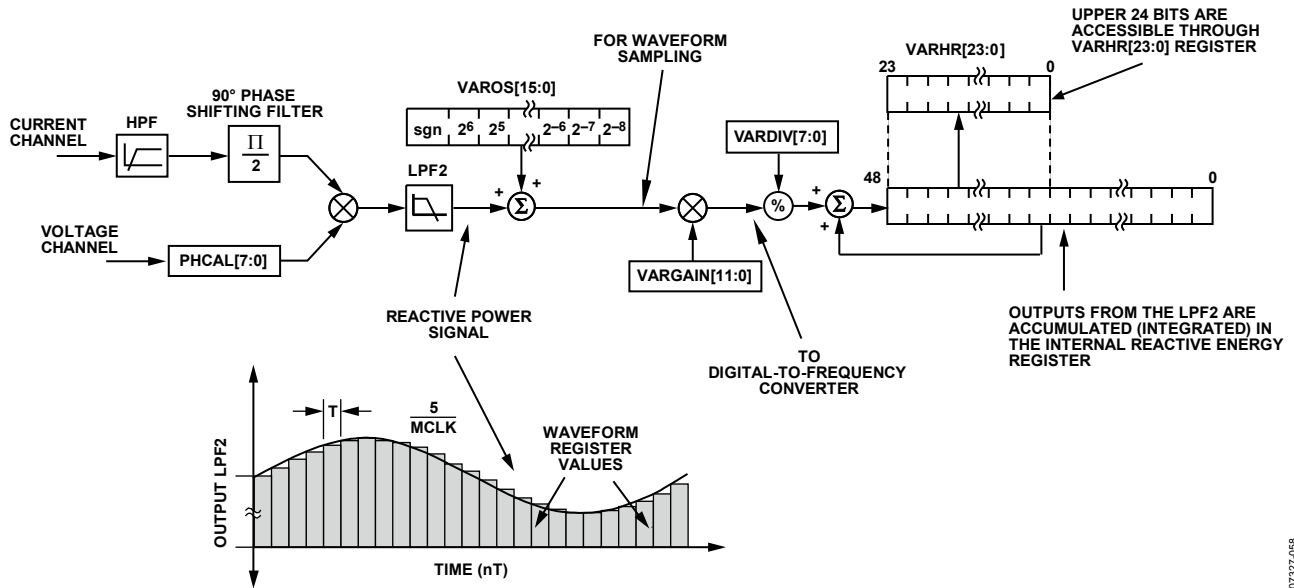

Figure 58. Reactive Energy Calculation
The instantaneous reactive power signal $q(t)$ is generated by multiplying the voltage and current channels. In this case, the phase of the current channel is shifted by 90° . The dc component of the instantaneous reactive power signal is then extracted by a low-pass filter to obtain the reactive power information (see Figure 58).
Figure 58 shows the signal processing chain for the ADE7518 reactive power calculation. As explained in the Reactive Power Calculation section, the reactive power is calculated by applying a low-pass filter to the instantaneous reactive power signal. Note that, when reading the waveform samples from the output of LPF2, the gain of the reactive energy can be adjusted by using the multiplier and by writing a twos complement, 12-bit word to the VAR gain register (VARGAIN[11:0]). Equation 23 shows how the gain adjustment is related to the contents of the watt gain register.
The ADE7518 also incorporates a reactive power offset register (VAROS[15:0]). This is a signed, twos complement, 16-bit register that can be used to remove offsets in the reactive power calculation (see Figure 58). An offset may exist in the reactive power calculation due to crosstalk between channels on the PCB or in the IC itself. The offset calibration allows the contents of the reactive power register to be maintained at 0 when no power is being consumed.
The discrete time sample period (T) for the accumulation register in the ADE7518 is $1.22 \mu\text{s}$ (5/MCLK). As well as calculating the energy, this integration removes any sinusoidal components that may be in the active power signal. Figure 58 shows this discrete time integration or accumulation. The reactive power signal in the waveform register is continuously added to the internal reactive energy register.
As shown in Figure 58, the reactive power signal is accumulated in an internal 49-bit signed register. The reactive power signal can be read from the waveform register by setting the WAVMODE register (0x0D) and setting the WFSM bit in the Interrupt Enable 3 SFR (MIRQENH, 0xDB). Like the current and voltage channel waveform sampling modes, the waveform data is available at a sample rate of 25.6 kSPS, 12.8 kSPS, 6.4 kSPS, or 3.2 kSPS.